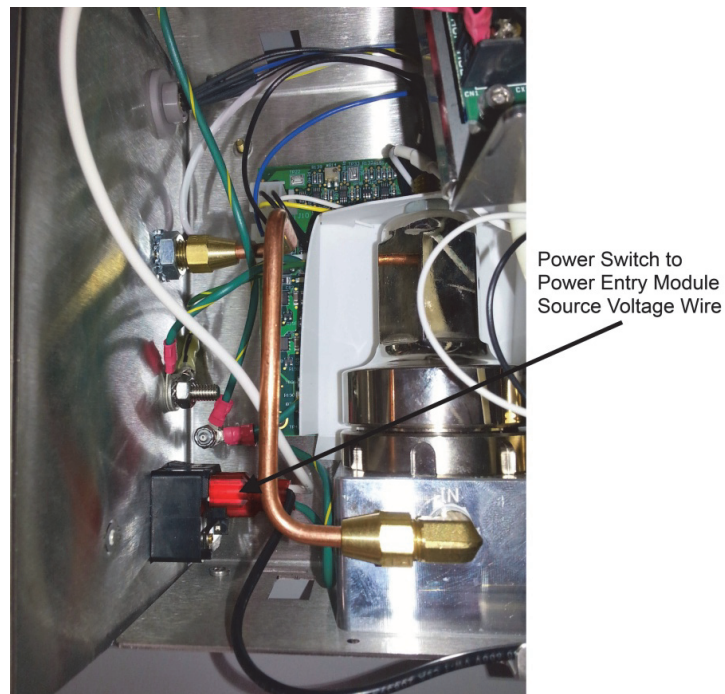

Figure 4
9. Then disconnect the wire that routes from Power Switch to the Power Entry Module. See figure 4.
11. Reattach the 115/230 VAC wires to the Power Supply (figure 3) and Power Entry Module (figure 4).
- a. Unplug the Power Switch wire from the Power Entry Module. See *“Troubleshooting, Unit will not Power On”* Section, figure 4.